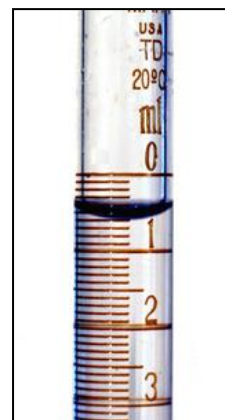

Figure 8 – **initial volume**
1. What is the smallest scale increment on the buret shown in figure 8?
3. What is the **initial volume reading** in the buret shown in figure 8? (remember to read the buret from the top down)
- What is the total volume that has been added between figures 8 and 9? To how many decimal places should you record your answer?